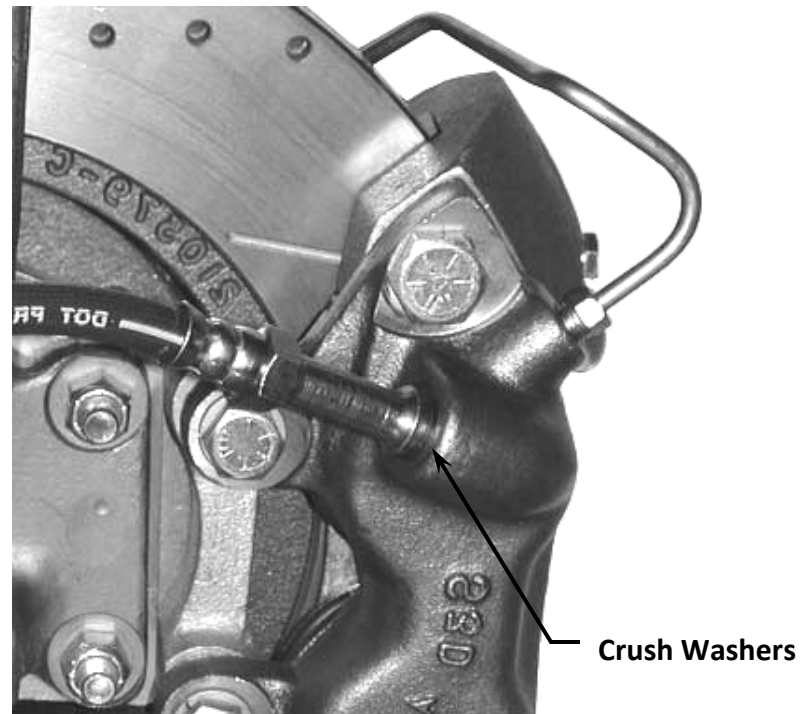

Figure 5 – Brake Hose Installed
10. Install the brake hoses onto the caliper and attach to the original plumbing on the vehicle. **NOTE:** Be sure the copper crush washer has been installed on the brake hose to prevent leaks before installing. Figure 5 above shows the installed brake hose at the caliper.